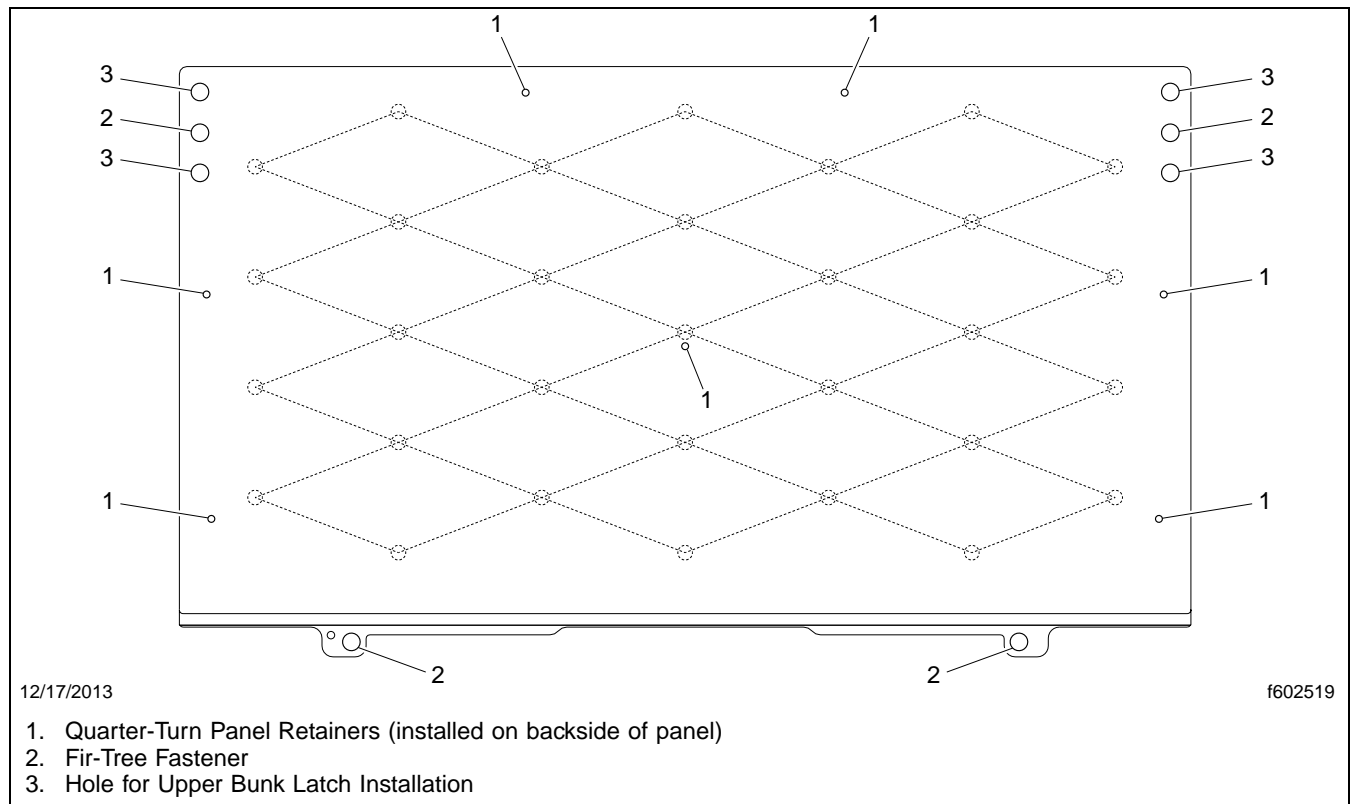

Fig. 6, Rear Trim Panel Fasteners
- 9.2 Remove the fir-tree fasteners from the trim panel. See **Fig. 6**.
- 9.3 Reach behind the panel with a panel removal tool, and pull the quarter-turn panel retainers loose from the back wall, leaving them installed on the fiberboard backing of the trim panel. See **Fig. 6**, item 1 for locations. Remove the panel.
- 30.1 If any of the quarter-turn panel retainers came loose from the fiberboard backing of the trim panel, insert them first into the fiberboard backing (quarter turn to insert). See **Fig. 6**, items 1, on page 9.